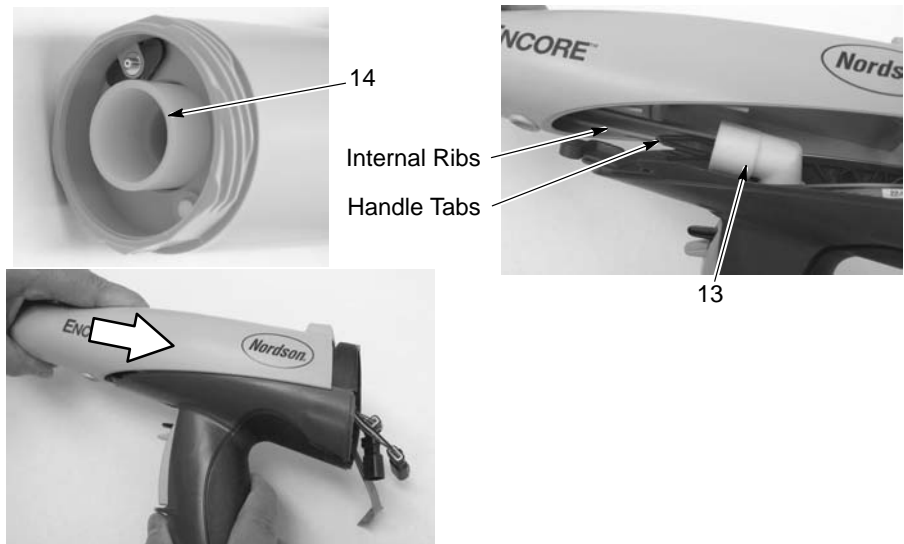

Figure 12 Outlet Powder Tube Installation
26. See Figure 12. Insert the outlet tube (14) with O-rings installed through the front of the gun body until the end is even with the end of the gun body.
27. Make sure the O-ring is installed in the groove on the inlet powder tube. Install the elbow (13) onto the end of the inlet tube.